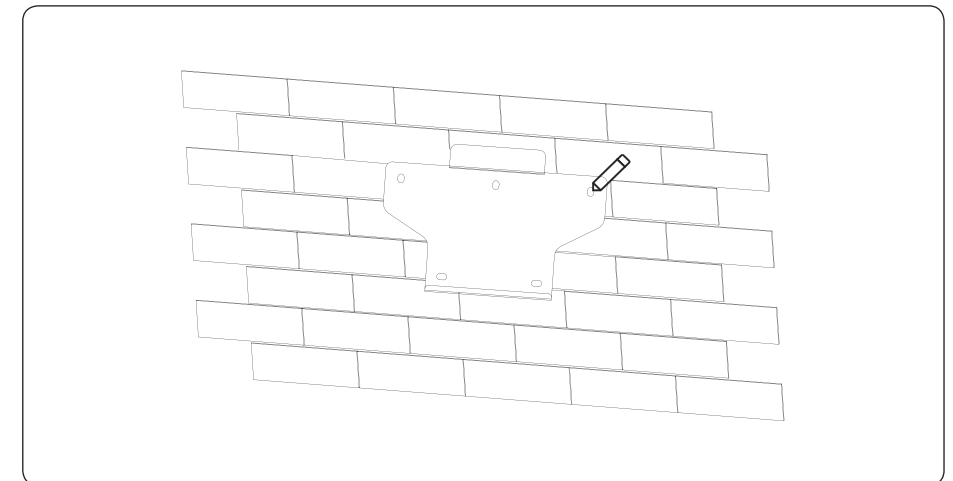

Figure 4-5 Marking hole position using installation bracket
1) Use the wall bracket as the template to mark the position of 5 holes on the wall. See Figure 4-5 for details: